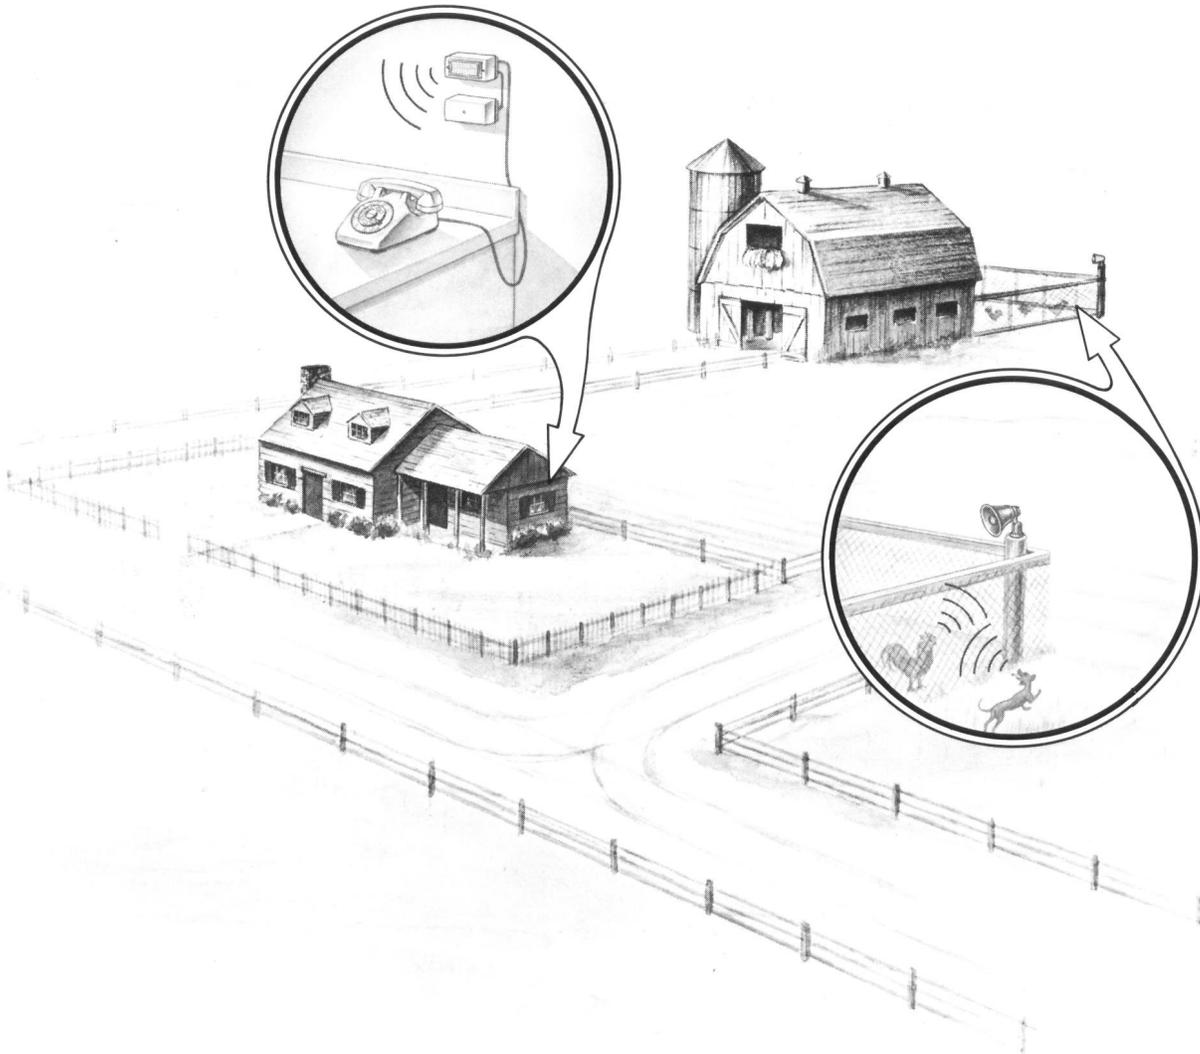

Fig. 10 - Monitoring
3.07 Except when used for talking or signaling, the microphone property of the loudspeakers is used to monitor any sound activity in the vicinity of the loudspeakers. The sound picked up by the loudspeakers is amplified and is heard over the monitor speaker. (See Fig. 10.) In order to remove this from the intercommunicating line while two stations are talking handset to handset.